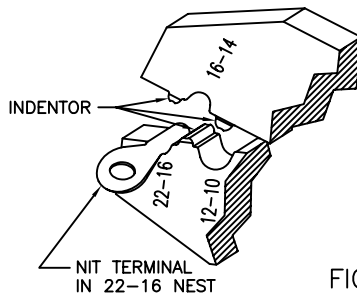

FIGURE 1
1. Select the correct terminal nest for the terminal (See Figure 1).
- a. The seam in the barrel is turned 180° away from the indenter (Fig.1).